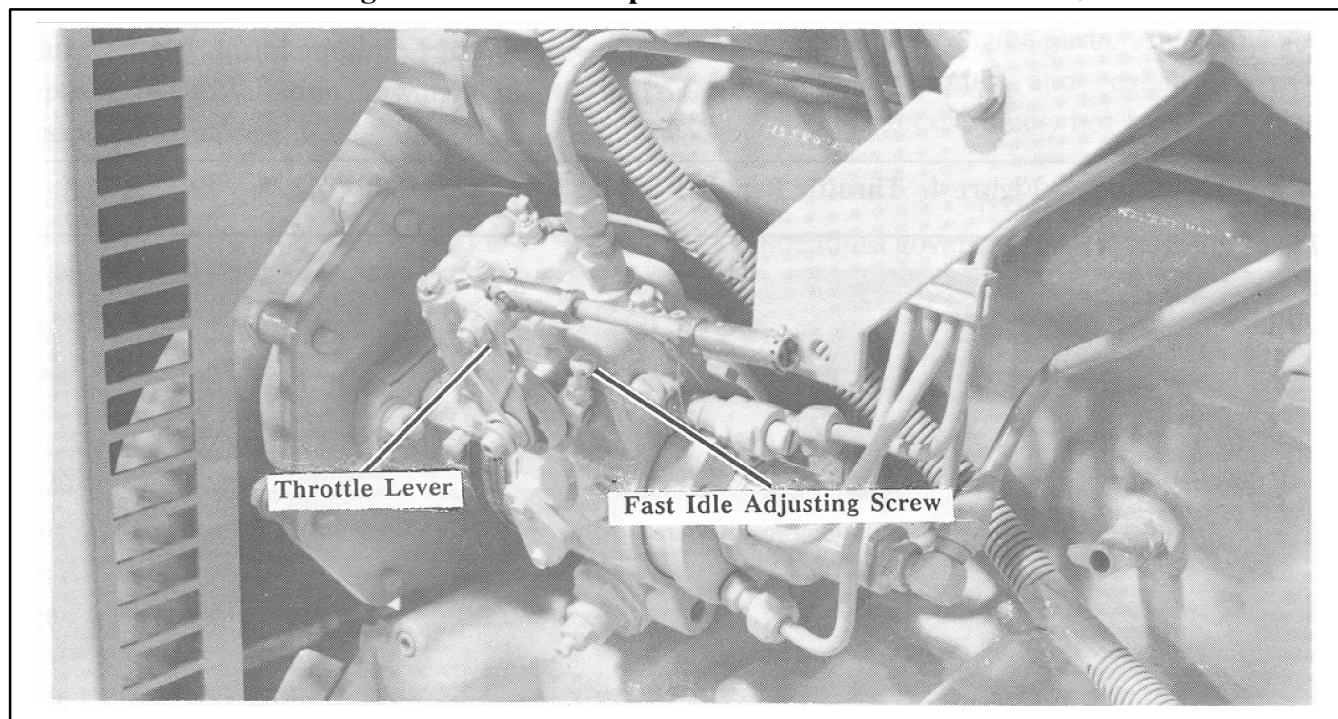

Figure 3. Throttle Repair Kit Installed – Typical (20–100ROZJ)
- d. To correctly set throttle rod length, rotate throttle lever clockwise until lever stops against the fast idle adjusting screw. Rotate throttle lever an additional 10 degrees clockwise then attach ball joint on free end of rod to mounting bracket. When properly adjusted, the spring on the throttle lever will be slightly extended. See Figure 3.